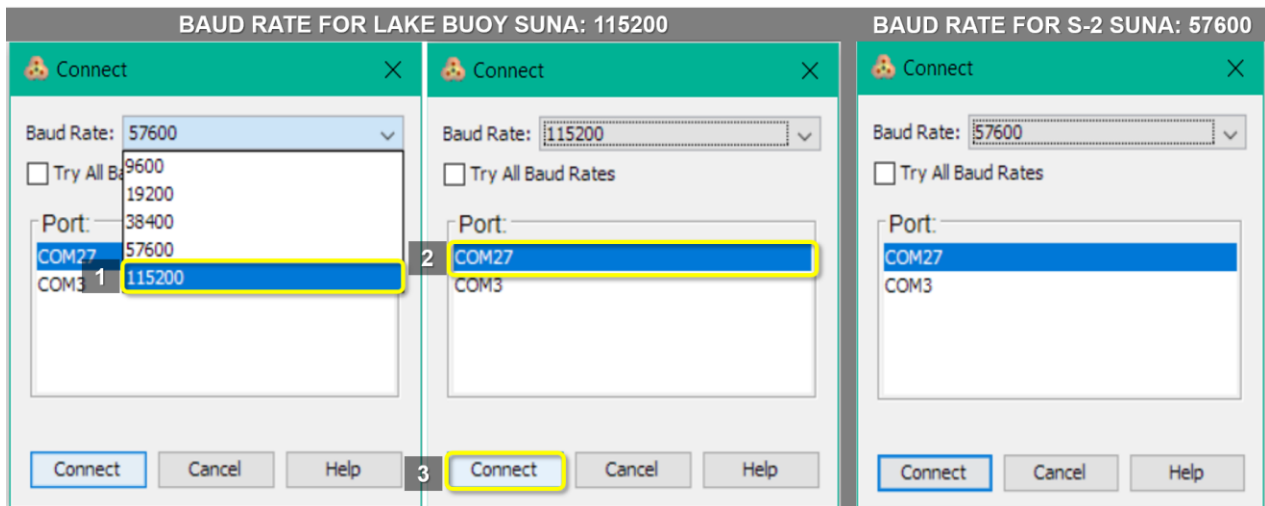

Figure 51. SUNA Baud Rate for AIS Lake Buoy and In-Stream (S-2)
6. In the Connect pop-up window, select the Baud Rate from the drop down options (see Figure 51).